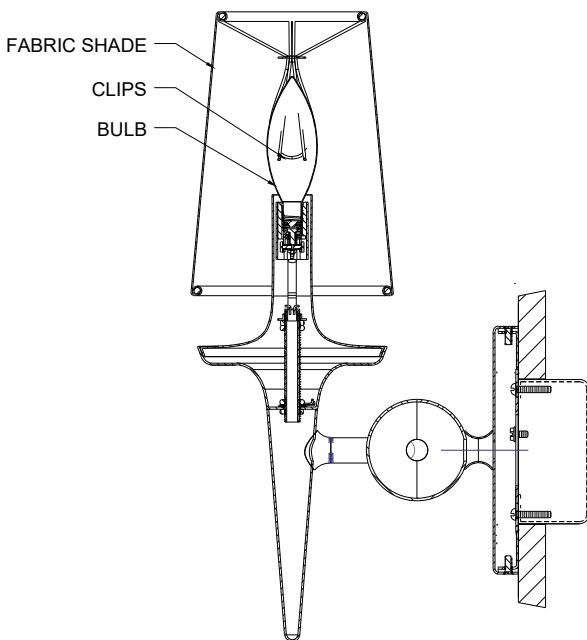

FIGURE-05
7. Attach the fabric shade to the fixture by fastening its clips onto the bulb. (SEE FIGURE-05)